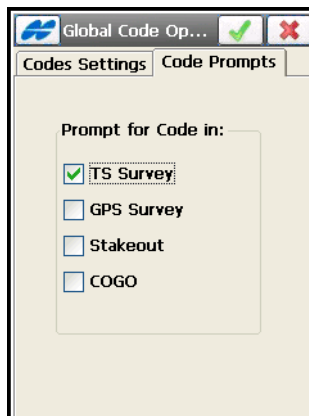

Figure 4-104. Code Prompts
- On the *Code Prompts* tab, set global prompts for code while performing TS and GPS Surveys, Stakeout and COGO tasks. Check mark a corresponding box to enable prompts for codes (Figure 4-104 on page 4-83).